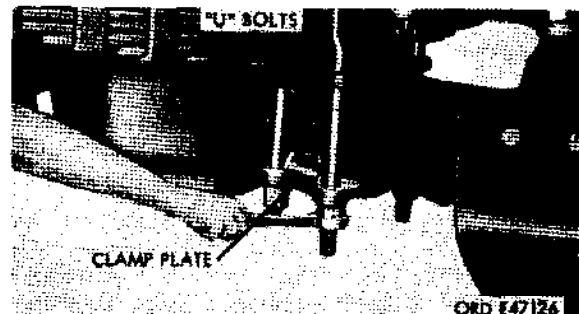

Figure 336. Removing U-bolt clamp plate
f. Remove U-bolt Clamp Plates (Fig. 336). Remove four nuts and lockwashers from two U-bolts securing axle housing to right front spring, and remove clamp plate from U-bolts. Repeat above operations at left front spring.
Warning: Weight of vehicle must remain supported by overhead hoisting equipment, floor jacks, or support stands at all times. Do not attempt to support weight of truck on hydraulic jack. Release hydraulic jack and pull out from under truck. Position clamp plate (fig. 336) on the two U-bolts at underside of right end of axle housing, and install two lockwashers and nuts on each U-bolt. Repeat above operation at left end of axle housing. Tighten the eight clamp plate retaining nuts (on four U-bolts), using a torque wrench, to 300 to 400 pound-feet torque.